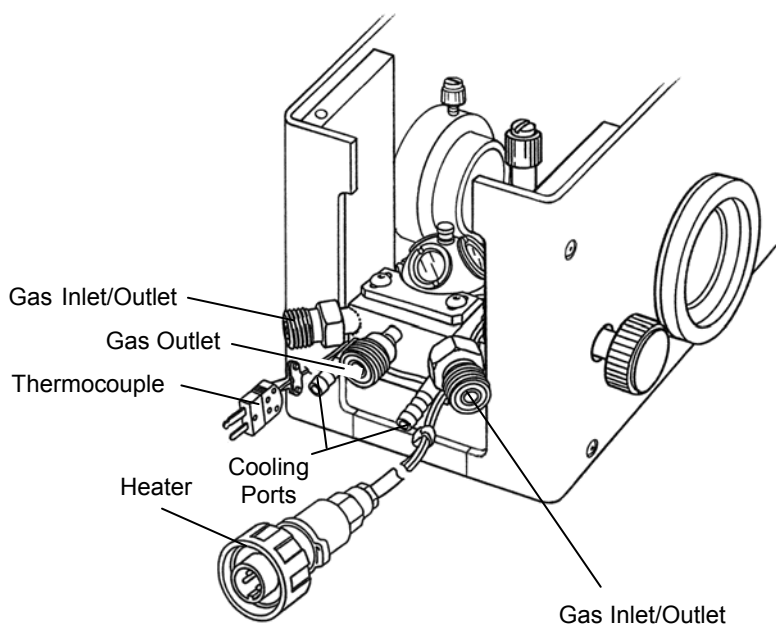

Figure 5 • The HVC Installed
- If temperature control is desired, connect the thermocouple and the heater (Figure 5) to a suitable temperature controller.
- If the HVC is to be operated at temperatures above 100°C, use 1/4" tubing to connect the two cooling ports (see Figure 5) to a water inlet/outlet or a coolant circulator. If needed, use a hose clamp to secure the tubing to the barbed fitting.
- If vacuum is desired, connect the gas outlet (1/4" VCO fitting, see Figure 5) to a vacuum pump or other source of vacuum using 3/8" I.D. vacuum tubing. Seal off the two gas inlet/outlet ports.
- If reaction or process gas/es are to be passed through the sample, connect the gas inlet/outlet ports (1/4" VCO fitting, see Figure 5) as needed to the gas source/s. Connect the gas outlet and seal off any unused gas ports.